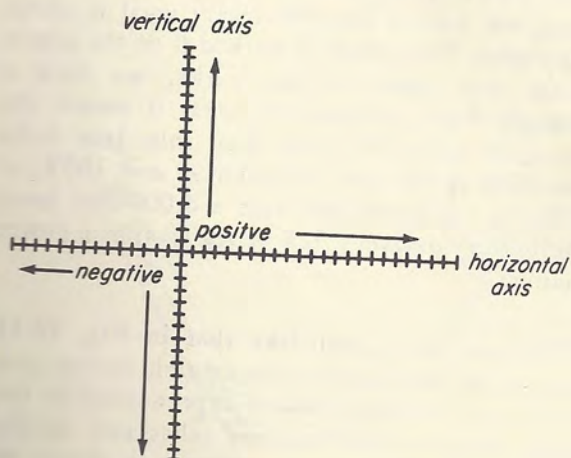

Fig. 12-13
**Extending the Axes.** The vertical axis may be extended below the horizontal axis, and the horizontal axis may be extended beyond the vertical axis, as shown in Fig. 12-13. The point where the horizontal and vertical axes intersect (come together) is usually considered zero for both axes. Any point on the vertical axis *above* the horizontal axis is considered *positive* in value and direction. Any point on the vertical axis *below* the horizontal axis is considered to be *negative* in value and direction. All values on the horizontal axis to the left of the vertical axis are considered *negative* in value and direction, and those to the right, *positive* in value and direction.